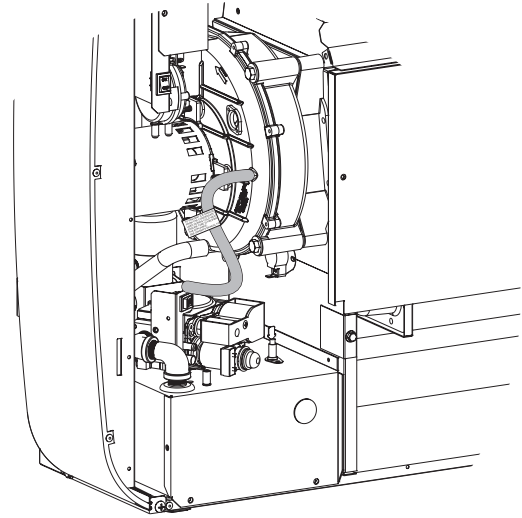

Figure 65
4. Remove the clear hose from the front drain tap on the inducer housing. **See Figure 65.**